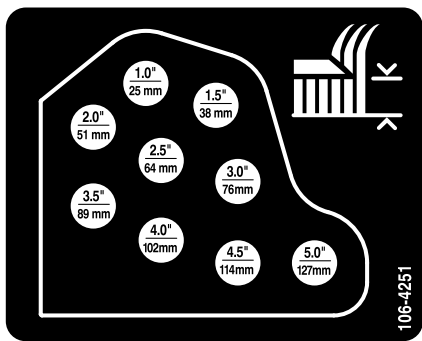

Figure 20
10. Mount the height-of-cut chains to the desired height-of-cut hole with the clevis pin and hairpin cotter (Figure 20).